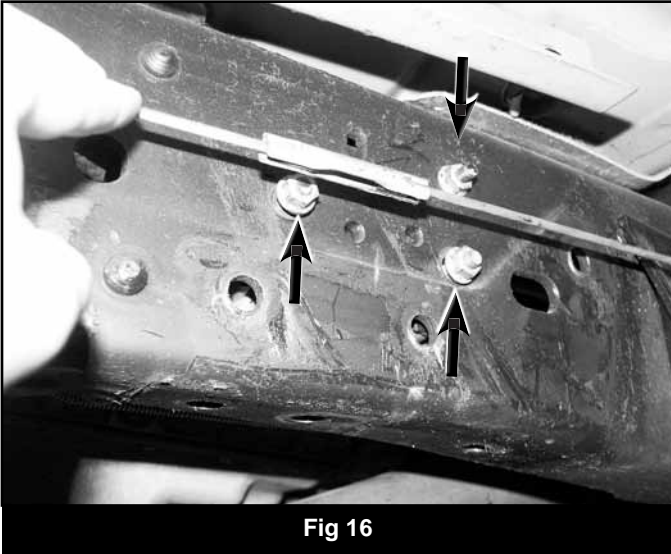

Fig 16
**Notes:** To help in accessing the bracket bolts, the fuel junction block mounted to the inside of the driver's side frame rail can be disconnected and repositioned out of the way. Use the nut that was removed from the radius arm-to-frame bolt for the upper control arm-to-axle mount bolt on the driver's side. The OE bolt in this position is welded to the radius arm. (Fig. 16, 17)